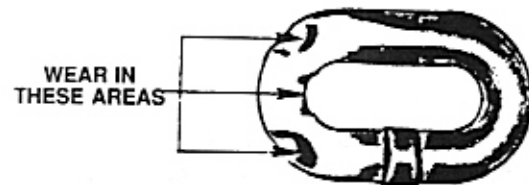

FIGURE 4-1. TYPICAL WEAR ON LINKS
- b. Inspect each link for wear to the diameter of the link (see Figure 4-1). The nominal link diameter is .250 inch for the chain on models AT $\frac{1}{2}$, AT1 and .375 inch for models AT1 $\frac{1}{2}$ and up. If the diameter of any link of .250 chain is worn to less than .200 or .375 chain less than .300, the entire chain must be replaced.